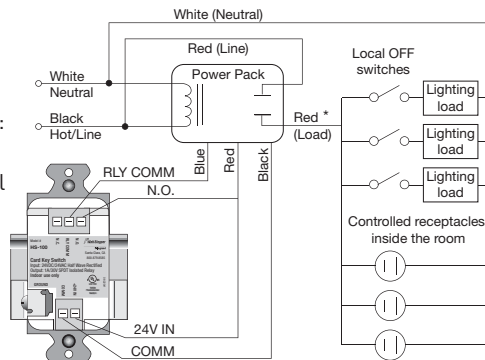
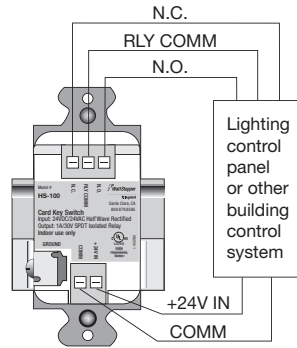

Figure 2: Wiring to power pack
Figure 3: Class 2 wiring to building control system
2. Insert wires into the terminals on the HS-100 as indicated in these instructions for either power pack wiring (Figure 2) or building control system wiring (Figure 3). Make sure they are securely clamped.